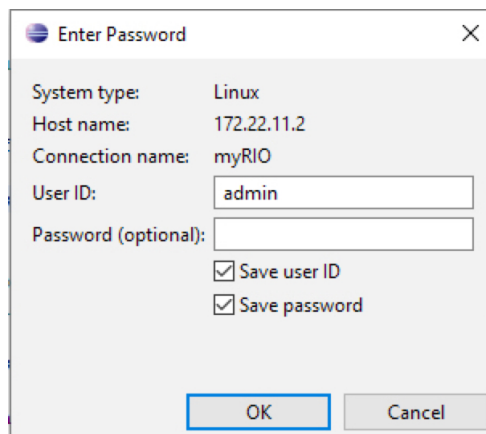

Figure 2: Remote system connection configuration
9. **Connect to myRIO:** From the Remote Systems pane, right-click on your myRIO target and select “Connect”. Confirm the IP address, and enter “admin” and leave the password blank. Choose to save the username and password for convenient reconnecting as shown in Figure 2. Press **OK** to connect.